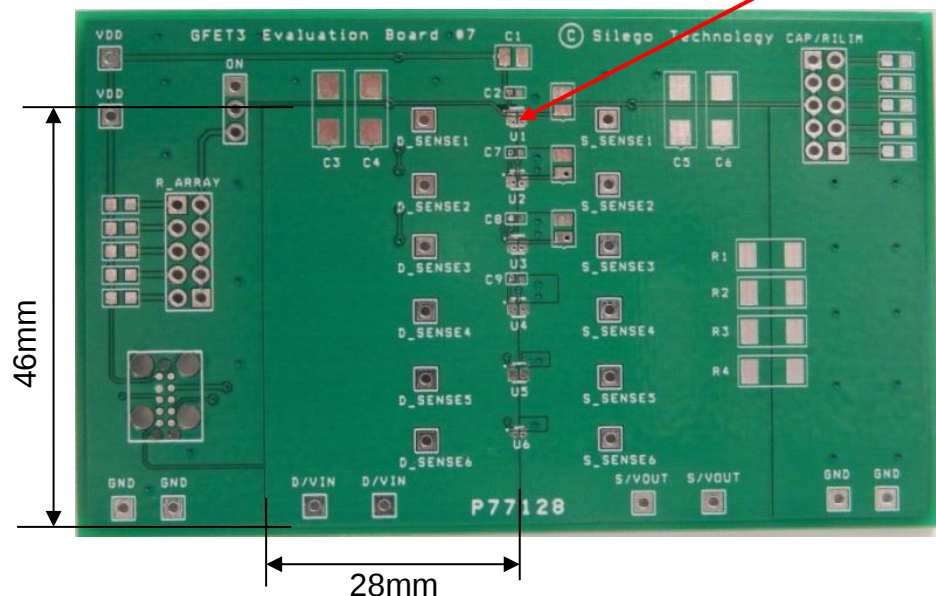

Figure 3. SLG59M1657V Evaluation Test Board
2.3. The D/VIN and S/VOUT pins carry significant current. Please note how the D/VIN and S/VOUT pads are placed directly on the power planes in Figure 3, which minimizes the Rds(ON) associated with long, narrow traces. The D/VIN, S/VOUT and GND pins dissipate most of the heat generated during high-load current condition. The layout shown in Figure 3 is illustrating a proper solution for heat to transfer as efficiently as possible out of the device.